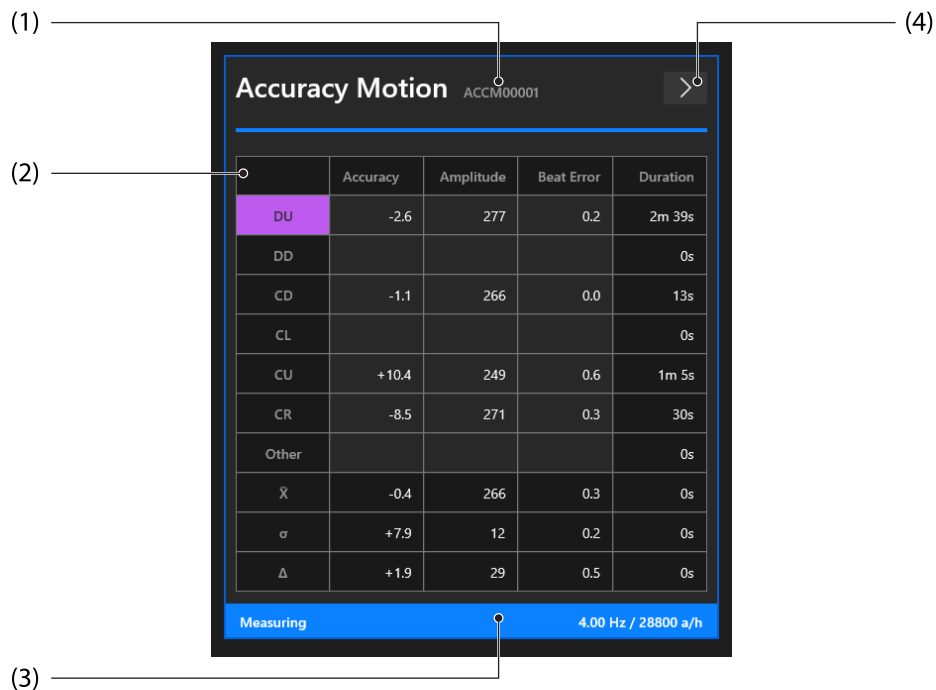

FIG. 6-4 - Accuracy Motion (Device overview)
- A. Clic on the **Detail views** button (4) of the **Device overview** window (see FIG. 6-4). In the **detail view**, you can analyze the current measurements of your watch. You can select different views to get a better overview of the data.